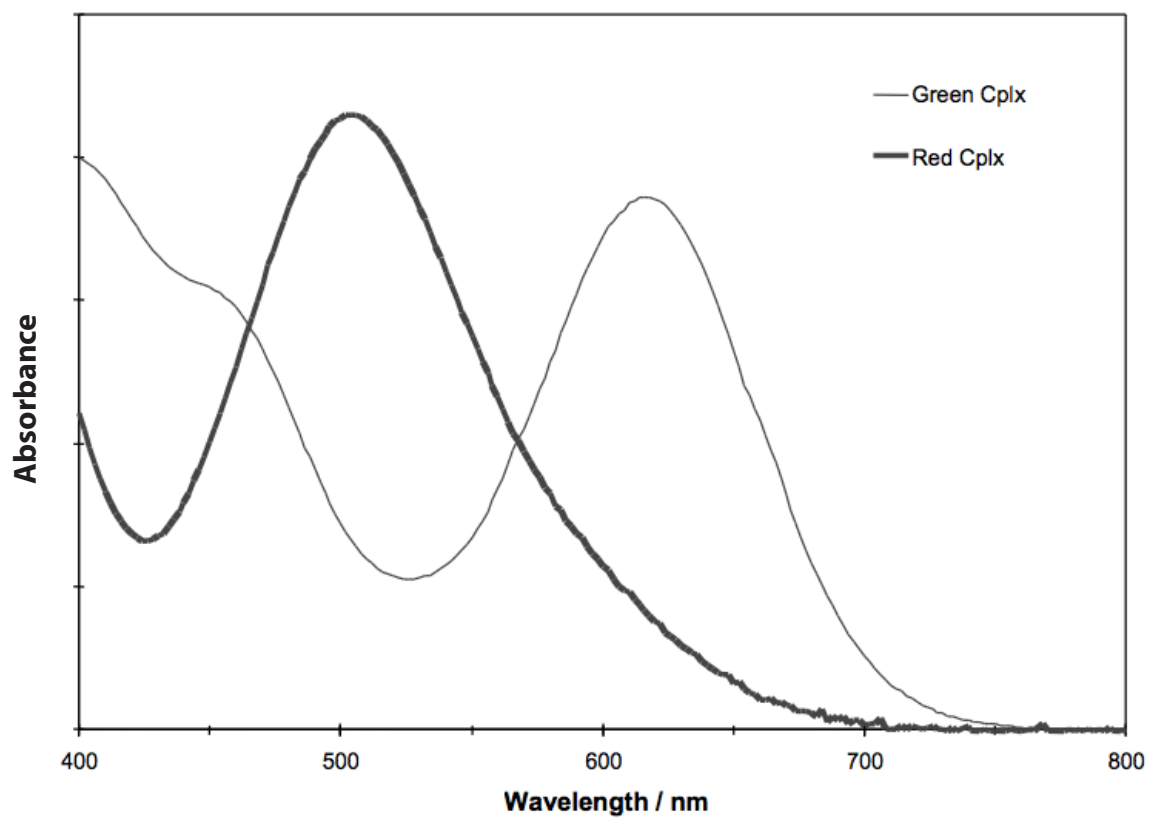

Figure 4. Absorption Spectra of Cobalt(III) Ethylenediamine Complexes
Figure 4 contains the absorption spectra of the red and green complexes. You will need to determine the true absorption maxima of the two complexes. The instrument you will use to make this determination is the manually operated GENESYS™ 20 spectrophotometer.
6. From the scanned spectra given in Figure 4 shown above, estimate the wavelength of the absorption maximum of the red colored complex.